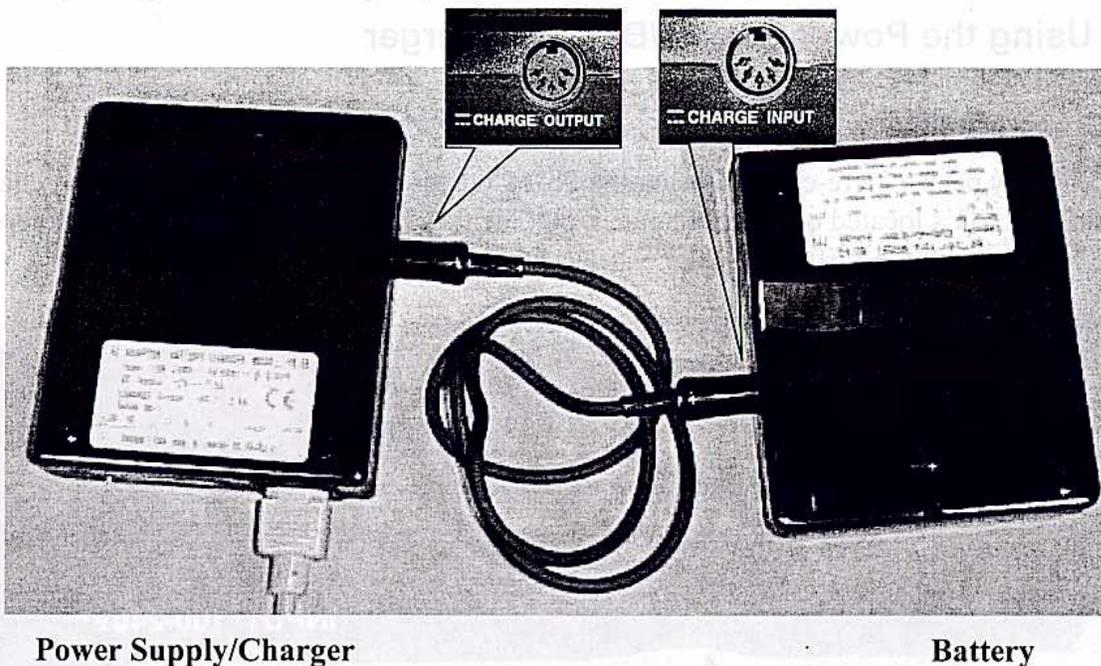

Figure 36. Connecting the Battery for Charging
1. Referring to Figure 36, connect the charging cord between the “charge output” on the PS-65 battery charger and the “charge input” on the BU-65 battery.